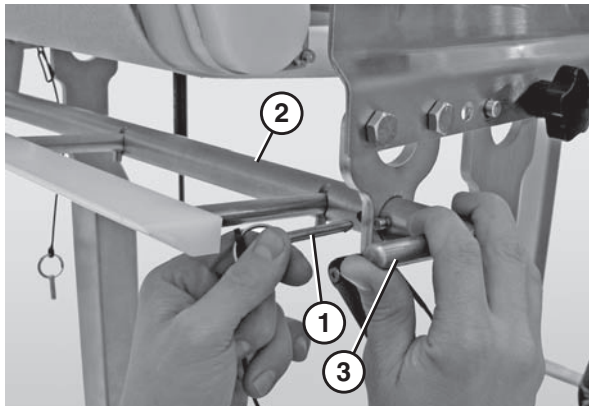

Figure 22
6. Insert the pin (Figure 22, item 1) to lock the scraper bar in place (Figure 22, item 2).
7. Adjust the scraper to the desired position using the scraper bar handle (Figure 22, item 3).